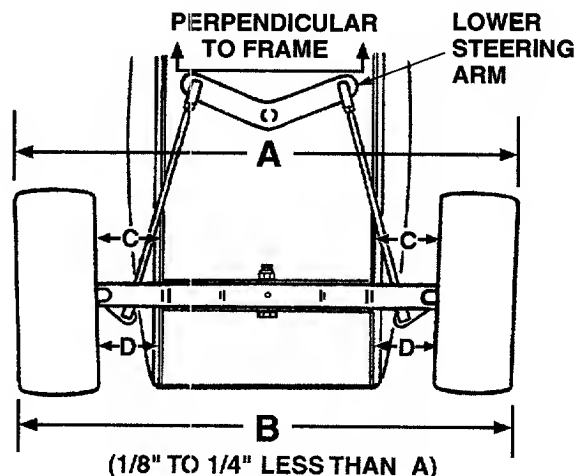

Figure 13. Viewed from beneath the tractor.
The front wheels should toe-in approximately 1/8 to 1/4 inch, as measured across dimensions A and B shown in Figure 13.
1. Check the lower steering arm to ensure it is perpendicular to the tractor frame (See Figure 13).
3. Rotate the wheels to position the marks at the front *horizontal* diameter of the wheels, then measure the distance between the marks and the bottom edges of the tractor frame channels (See measurement D in Figure 13). These two measurements should be equal.
4. Rotate the marks to the rear *horizontal* diameter and measure the distance between the marks and the frame (See measurement C in Figure 13). Measurement D should be approximately 1/16 to 1/8 inch less than measurement C on each side of the tractor.